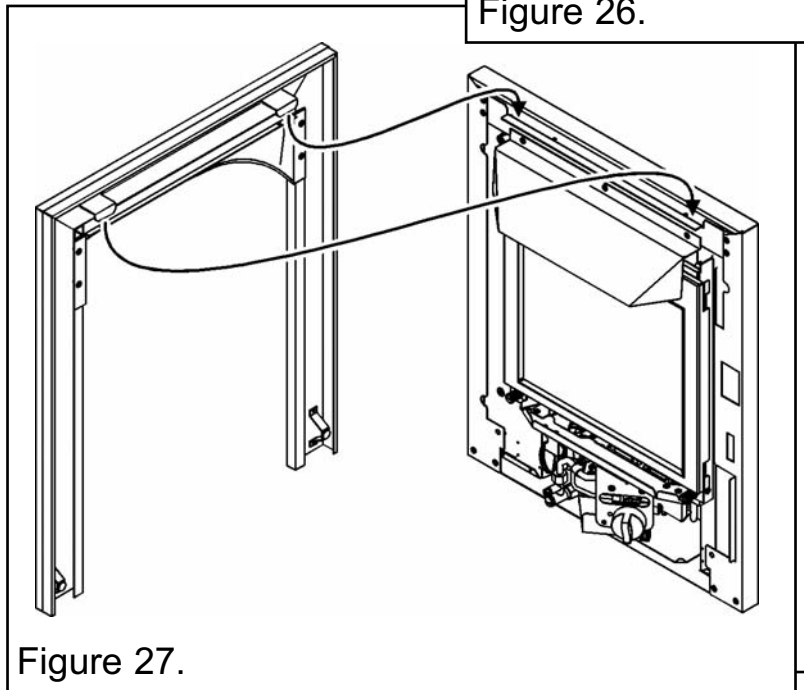

Figure 27.
3. Keeping the lower magnets clear of the fire, locate the hanging brackets on the rear of the fascia onto the support bar at the top of the fire (See figure 27).